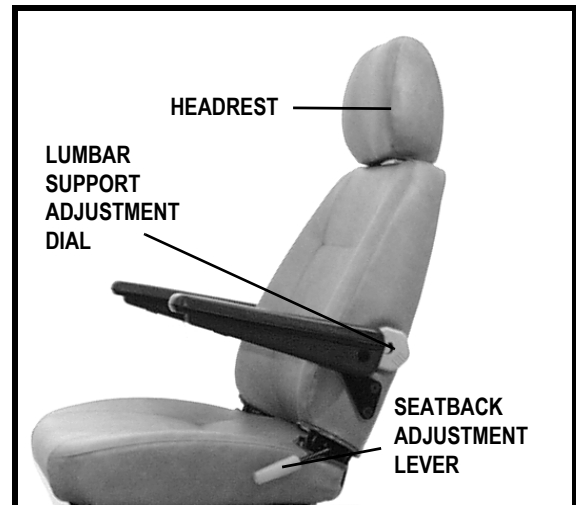

Figure 12. Seatback and Headrest Adjustments
1. Pulling up on the headrest will raise its position. See **figure 12**.
To adjust your scooter's reclining seat, perform these steps (see **figure 12**):
The lumbar support is inside the lower part of the seatback. Turn the lumbar support adjustment dial anticlockwise to move the support into a comfortable position. See **figure 12**.
NOTE: *If your scooter is not equipped with a reclining high-back seat, as shown in figure 12, you will be able to adjust the height and width of the armrest by following the directions below.*